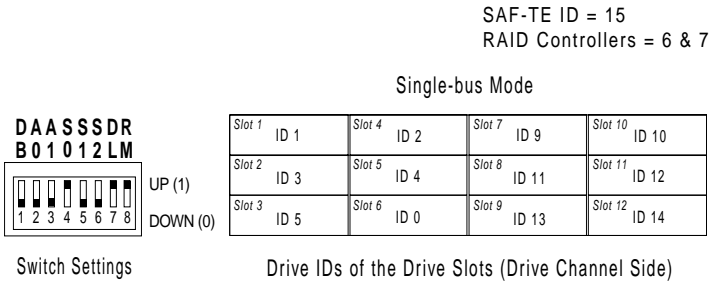

Figure 3-14 Single-Bus 25–36-Drive Switch Settings
- 1 Establish the drive configuration by setting the SAF-TE card switches to reflect the settings shown in Figure 3-14.